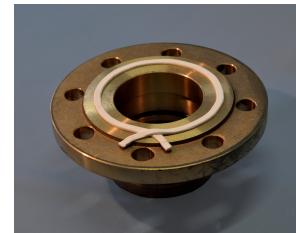

Figure 3
- For gasket tapes WT-E 04 and WT-E 06 join the endings by overlapping as shown in Figure 3.